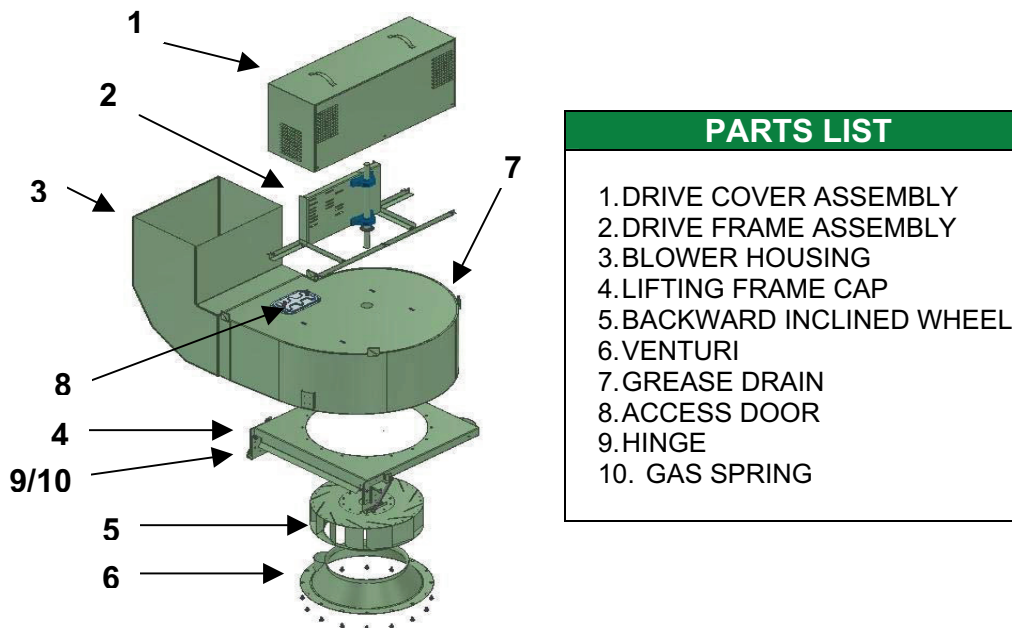

Figure 4: Exploded view
9. Should further service to the blower be necessary, refer to the exploded view illustration (see Figure 4).